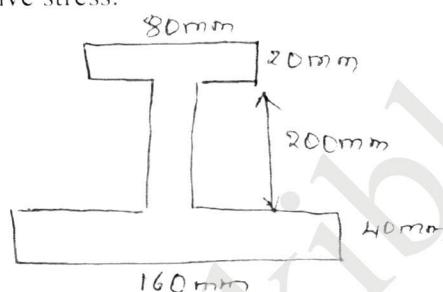

Fig.Q7(b)
b. A cast iron beam section shown in Fig.Q7(b) is freely supported on a span of 5m. If the tensile stress is not to exceed 20 N/mm². Find the safe UDL which the beam can carry. Find also the maximum compressive stress. (10 Marks)